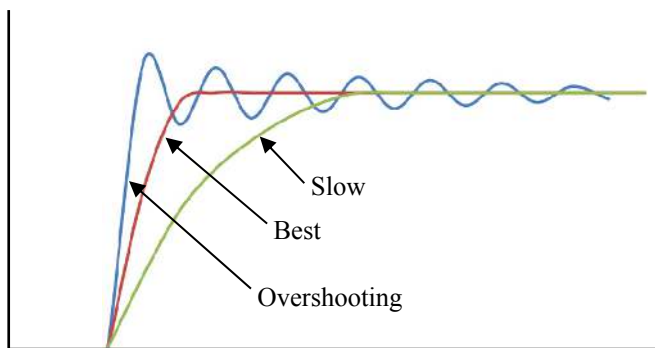
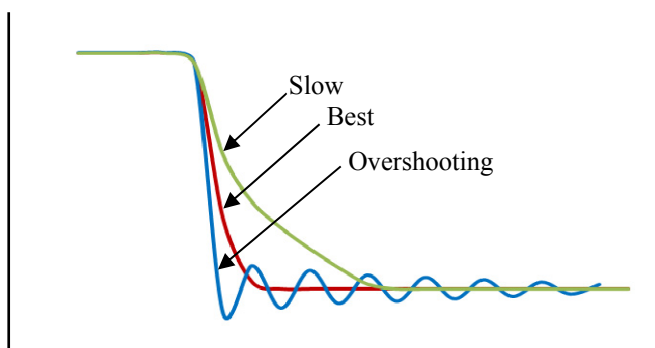

Figure 8. Rise Waveforms of VTEC
Figure 9. Fall Waveforms of VTEC
1. Hook up the power supply, TEC and thermistor. There are 2 solder pads in the upper right area on the edge for connecting the DC power supply voltages in the right polarity as indicated onto the board. Usually the power supply is set to 5V. There are also 2 solder pads in the center right area on the edge for connecting the TEC terminals in the right polarity as indicated onto the board. Connect the thermistor terminals to the board, there is no polarity requirement. On the top of the board, there is the switch bank S1, the fifth switch Delta TEMPSP is used to adjust the compensation network of temperature control loop by inputting a square wave disturbing signal in temperature input point, which enables the system to generate corresponding response waveform. At this time, observe the waveform change by oscilloscope, and adjust and optimize the compensation network of the temperature control loop so as to achieve the best waveform at the same time. Response waveform is achieved by measuring VTEC with oscilloscope, as shown in Figure 8 and Figure 9. The compensation network components consist of  $R_I$ ,  $R_D$ ,  $R_P$ ,  $C_D$  and  $C_I$ , which will be adjusted by S2, S3, S4, S5 and S6 (When turning one of these switches to higher position, the corresponding value will be applied). These connections can be done by clipping or soldering on the pads, see Figure 1. Check the evaluation board connections, making sure that they are all correctly connected.